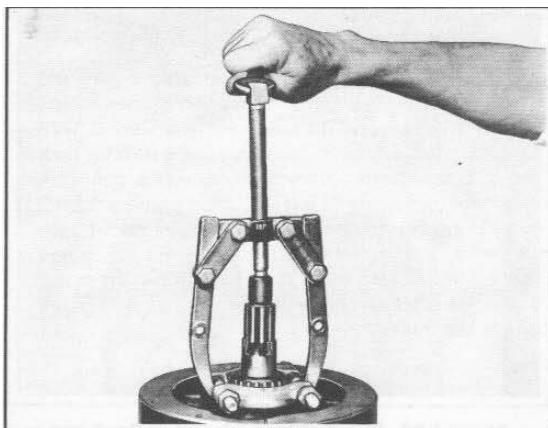

Figure 3-35. Pulling Bearing from Sprocket Shaft
8. If flywheels are to be disassembled, grip pinion shaft in vise and pull bearing (15) from sprocket shaft using claw puller and wedge attachment. Place wedge halves behind bearing and pull bearing off by tightening roller screw against sprocket shaft center as shown in Figure 3-35. Keep bearings in a set with proper bearing outer races.